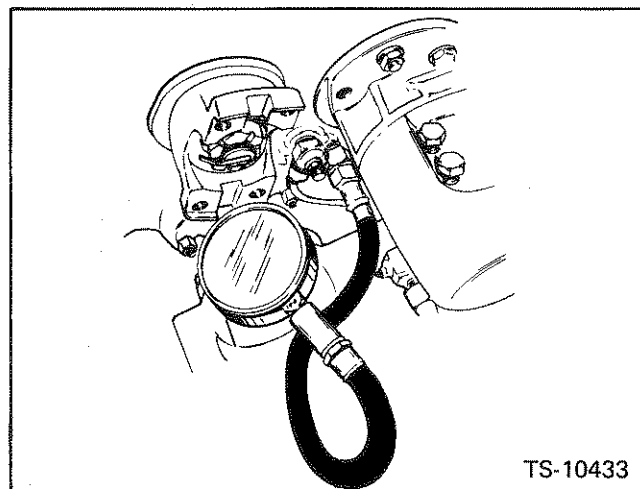

Fig. 8-1 Check Converter OUT Pressure
2. Install a gauge at the converter OUT pressure port located below the sender unit on the rear of the converter. Fig. 8-1.
*NOTE: For checking the oil cooler IN pressure refer to the procedure for checking the converter OUT pressure, as these two pressure readings are the same. See Fig. 8-1 for the position of the check point.*